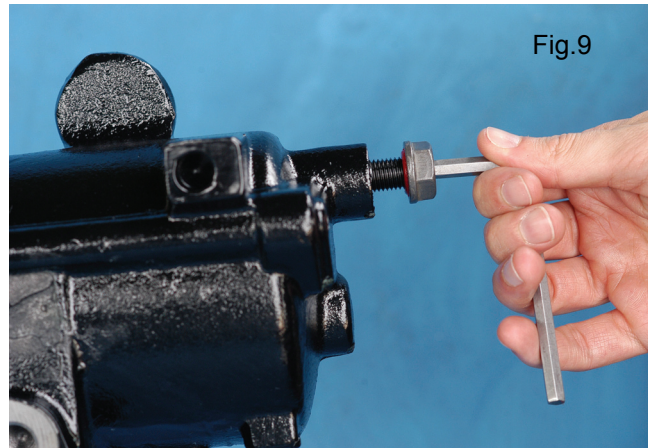

Fig.9
Adjust the locknut on the screw according step 2 of this procedure as described before. Turn the new adjusting screw (41) and locknut (40) assembly, without rotating the nut on the screw, into the housing until the nut is firmly against the housing (Fig.9). Final torque the nut to 20-30 Nm (Fig.10).